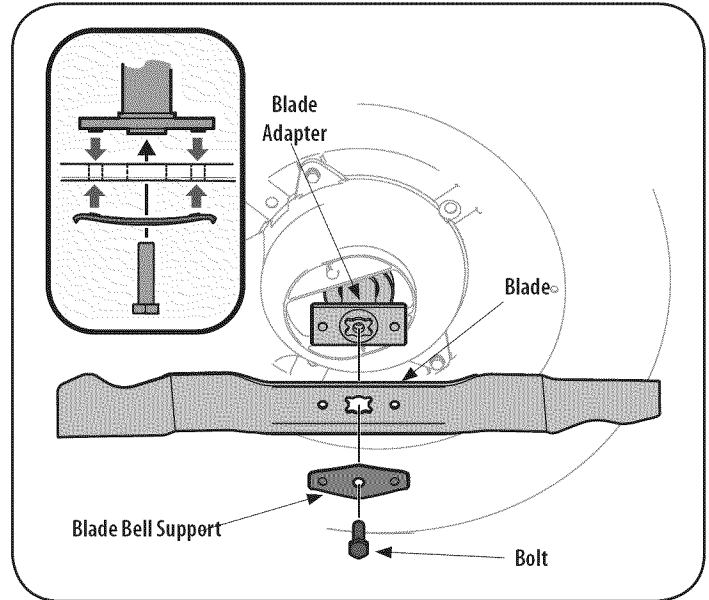

Figure 18
2. Remove the bolt and the blade bell support which hold the blade and the blade adapter to the engine crankshaft. See Figure 18.
5. Lubricate the engine crankshaft and the inner surface of the blade adapter with light oil. Slide the blade adapter onto the engine crankshaft. Place the blade on the adapter such that the side of the blade marked "Bottom" (or with part number) faces the ground when the mower is in the operating position. Make sure that the blade is aligned and seated on the blade adapter flanges. See Figure 18 inset.